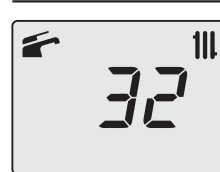

Figure 9.24
- Press button 14 (Figure 9.20) to vary the output in chimney sweep mode: when the LCD displays the letters **hP** that alternate with the temperature of the heating water (e.g. **32**), the "chimney sweep function" is at maximum output in heating mode (Figure 9.24).